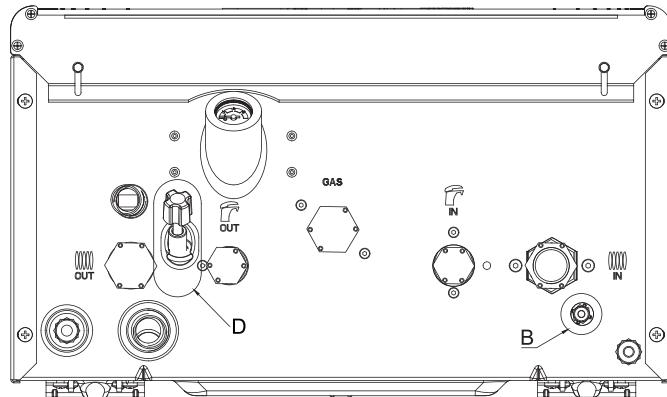

Figure 3. Smart Fit combi boiler bottom view
Smart Fit combi boilers have a manometer on the bottom surface. After all the necessary connections of the combi boiler (electricity, pipes, and flue) are made, filling can be done through the filling tap (D) on the lower left side of the combi boiler (Figure 3).
If the water pressure drops below a certain value, the display shows the error E04. Open the filling tap (D) in Figure 3 to increase the pressure in the system. Check the pressure value on the manometer to avoid overloading the system. Continue filling the system until the pressure reaches 1.2 bar, when this value is reached, close the filling tap.
If the water pressure exceeds 3 bar, drain the required amount of water into a bucket using the drain tap (B) (Figure 3).